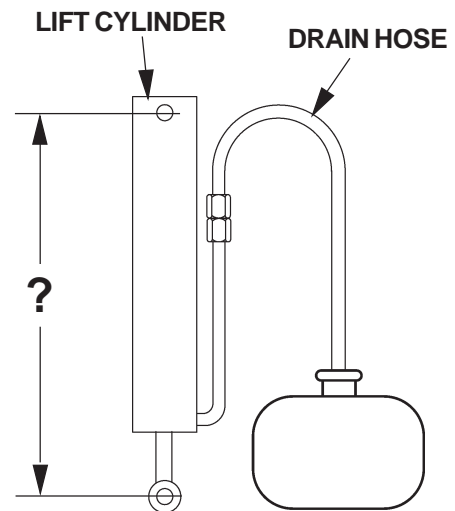

FIG. 6B
- Remove plastic plug from line fitting on new Cylinder. To prevent fluid spills, fasten a drain hose with 1/4" NPT Female end to line fitting on bottom end of cylinder as shown in **FIG. 6B**. Place other end of hose in 1 gallon container. Extend Cylinder until distance measured between butt-end and rod-end pin bores is the same as distance recorded in **Step 1**.